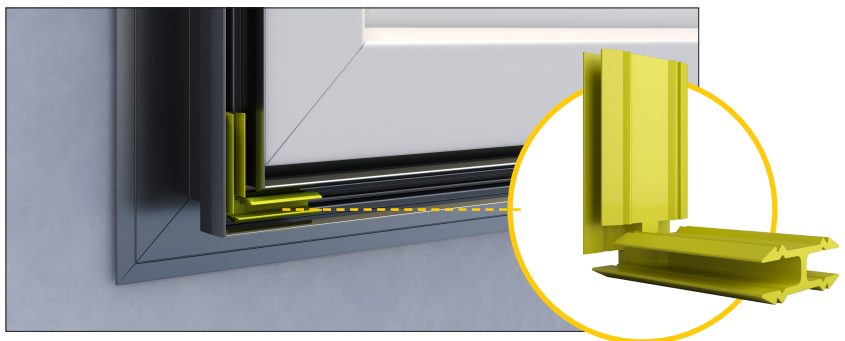

Figure 3
3. Snap FP Corner Key into the receiving engagement of the mitered backplates. (Figure 3)